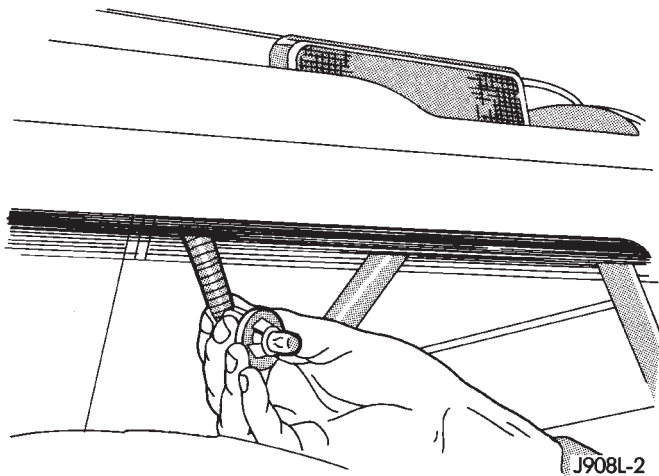

Fig. 18 Side Marker Lamp Bulb—YJ Vehicles
(1) Remove side marker bulb socket via the underside of the fender. Rotate it one-third turn and separate it from the side marker lamp housing (Fig. 18).
(2) Remove the bulb from the socket by pulling it straight outward.
- (1) Install a replacement bulb in the socket.
- (2) Install the bulb and socket in the side marker lamp housing (Fig. 18).